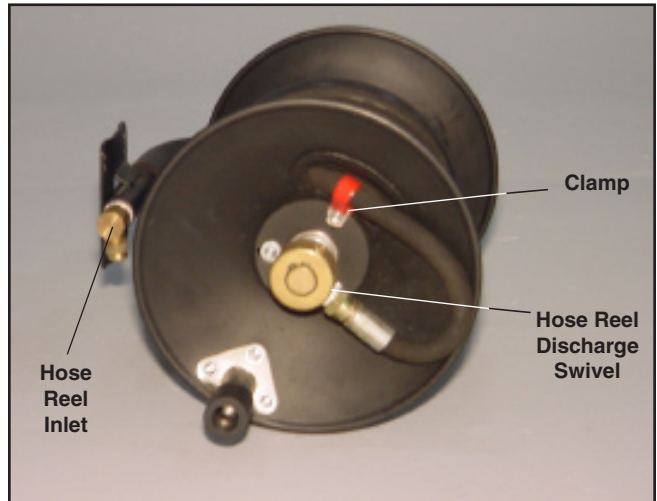

Figure 2
2. Using the supplied 1/2" MNPT x 1/2" JIC 90° elbow (steel), wrap the NPT side with Teflon tape and screw into the inlet of the hose reel. Tighten connections carefully with wrench. *See Figure 2.*
6. Wrap threads with Teflon tape and attach end of 50' high-pressure hose to hose reel swivel by threading hose through access hole on reel. Tighten securely. *See Figure 2.*
7. Secure hose to reel with clamp and tighten nut as shown. Rotate hose reel to wrap 50' hose around reel. *See Figure 2.*